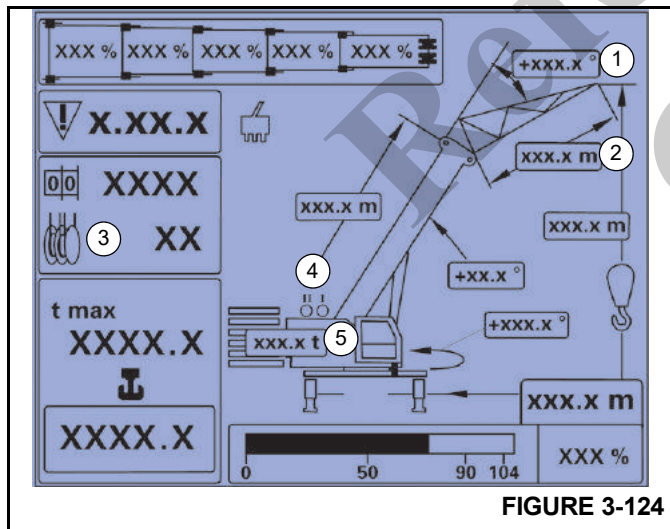

FIGURE 3-124
In the RCL Monitoring submenu (Figure 3-124) verify the following items correspond to the actual rigging of the crane:
The indicator (3) (Figure 3-124) will show the last entered reeving value for the main hoist.